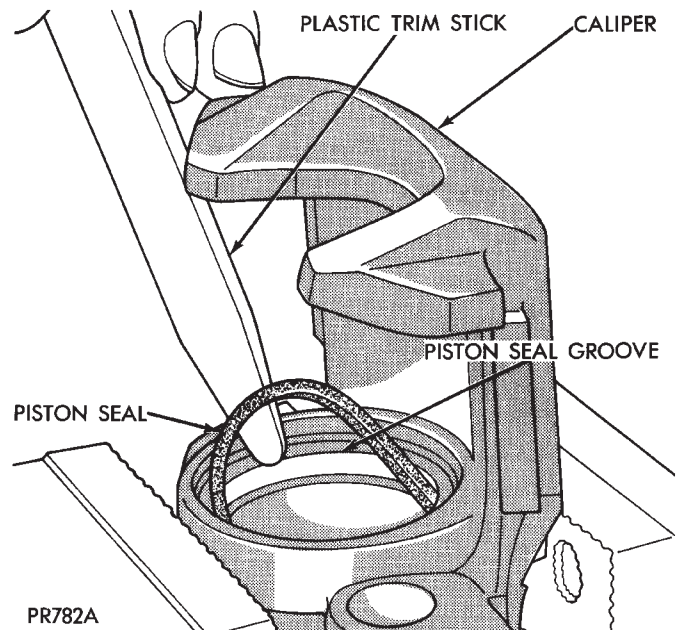

Fig. 161 Removing Piston Seal From Caliper
(8) Using a soft tool, such as a plastic trim stick, work piston seal out of its groove in caliper piston bore (Fig. 161). Discard old seal. **Do not use a screw driver or other metal tool for this operation, because of the possibility of scratching piston bore or burring edges of seal groove.**
(9) Clean all parts using alcohol or a suitable solvent and wipe dry **using only a lint free cloth.** No